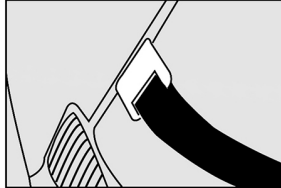

Fig. 7
- b. Hatchback: The outer straps clips onto the side of the hatchback door (Fig. 7).